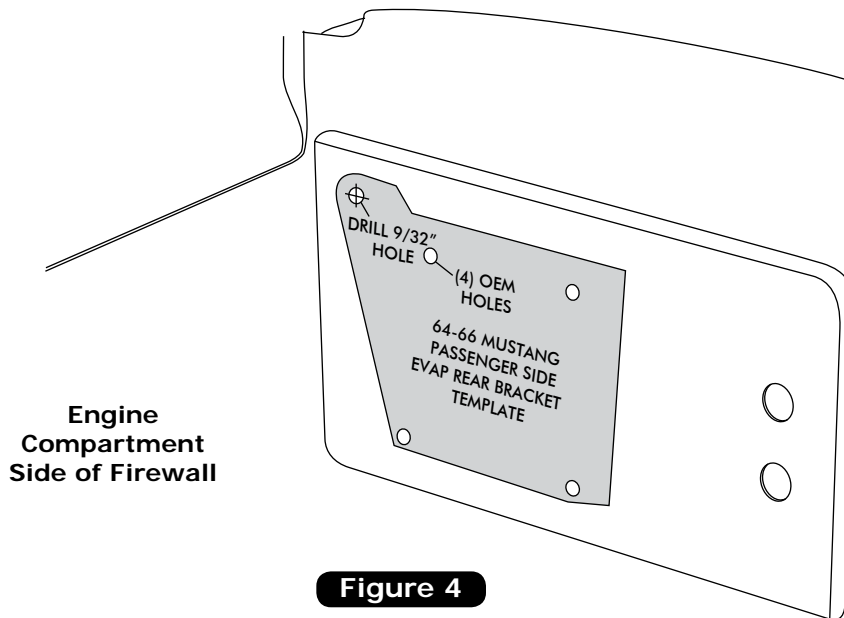

Figure 4
2. Align the template with the (4) OEM holes as shown in Figure 4, below. Drill a 9/32" hole as indicated on the template.